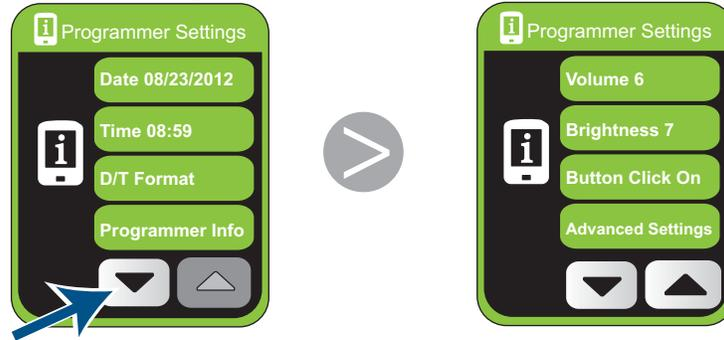

Figure 87. Viewing additional settings buttons
2. Tap  (Figure 87). Additional buttons on the Programmer Settings screen appear. The Brightness button displays the current screen brightness.